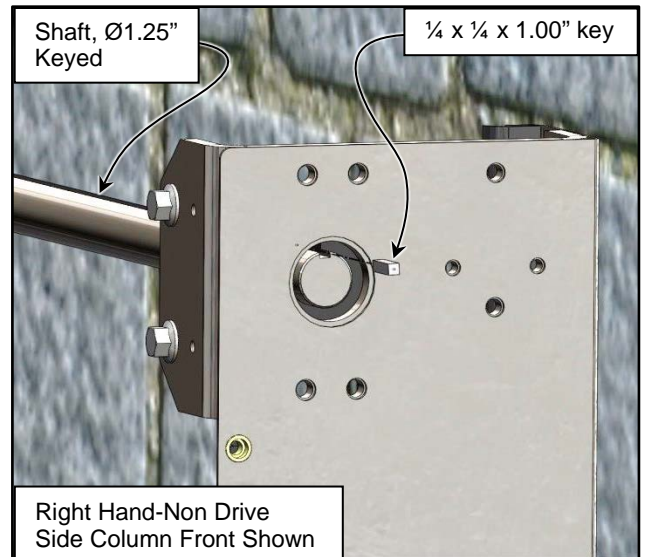
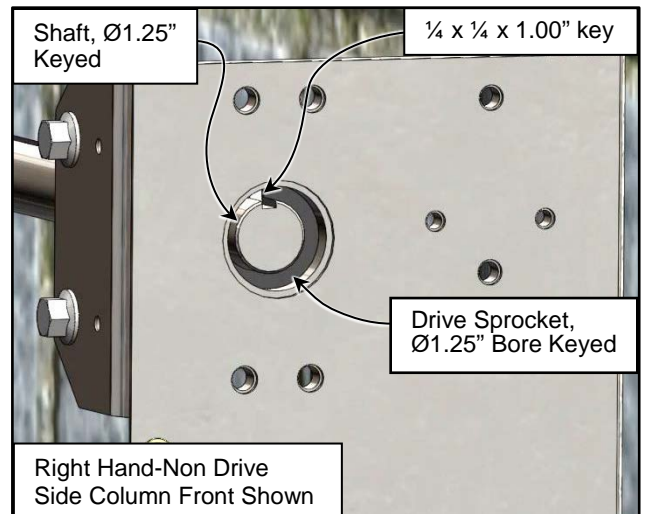

Figure 56
Figure 57
- On the non-drive side, align the keyways of the drive shaft and the non-drive side drive chain sprocket. Install the 1/4 x 1/4 x 1.00" key in the drive shaft and non-drive side drive chain sprocket. It must be flush mounted with the sprocket's edge as shown. (See Figure 56 and Figure 57)